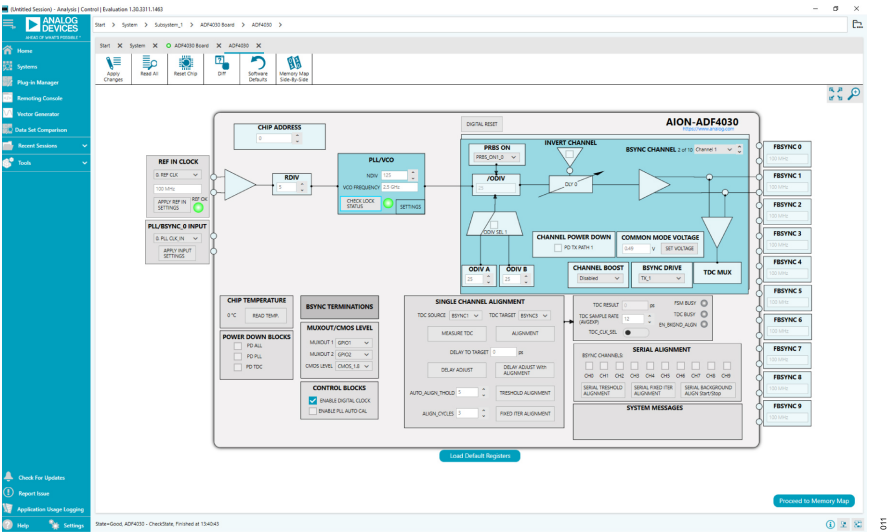

Figure 11. ACE after PLL has locked
11. Click **CHECK LOCK STATUS** inside the **PLL/VCO** dialog box. The **REF OK** green LED inside the **REF IN Clock** dialog box and the green LED inside the **PLL/VCO** dialog box should both turn green (Figure 11). The first LED shows that the ADF4030 considers the REFIN clock as valid, and the second shows the PLL has locked onto the REFIN reference clock. If the PLL has not locked, the typical cause is the reference clock not meeting the data sheet specifications. This may happen even when the ADF4030 deems the reference as valid.